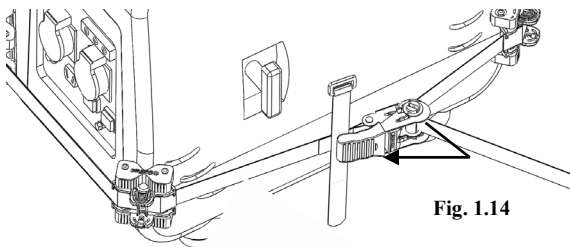

Fig. 1.14
- l.** Once the Angle Braces are in the desired location, open and close the ratchet handle 1 or 2 times to begin tightening the system (Fig1.14). **Do not over tighten the system so tight that you cannot make any adjustments to the placement of the Angle Braces.**